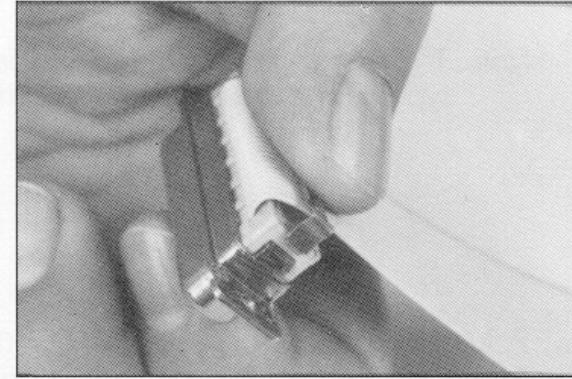

Fig. 8
3. Snap other end of the strain relief into position on the opposite connector end. (fig. 8)